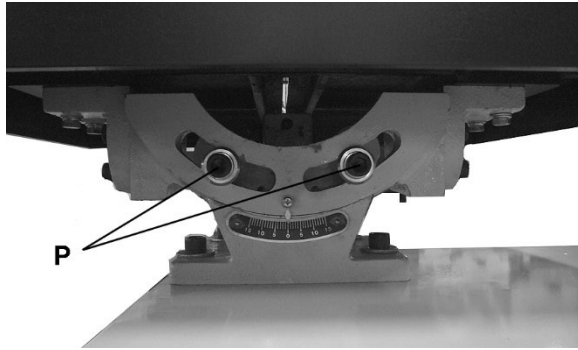
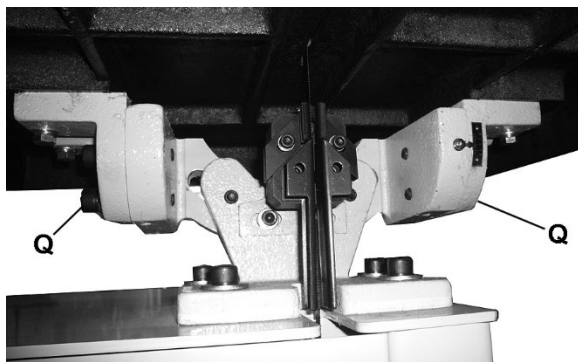

Figure 5
Figure 6
**Table Tilt Mechanism** – located under work table. To tilt table left or right, loosen two socket head cap screws (P, Figure 5) at rear of mechanism. To level table front to back, loosen four socket head cap screws (Q, Figure 6) on either side of mechanism.